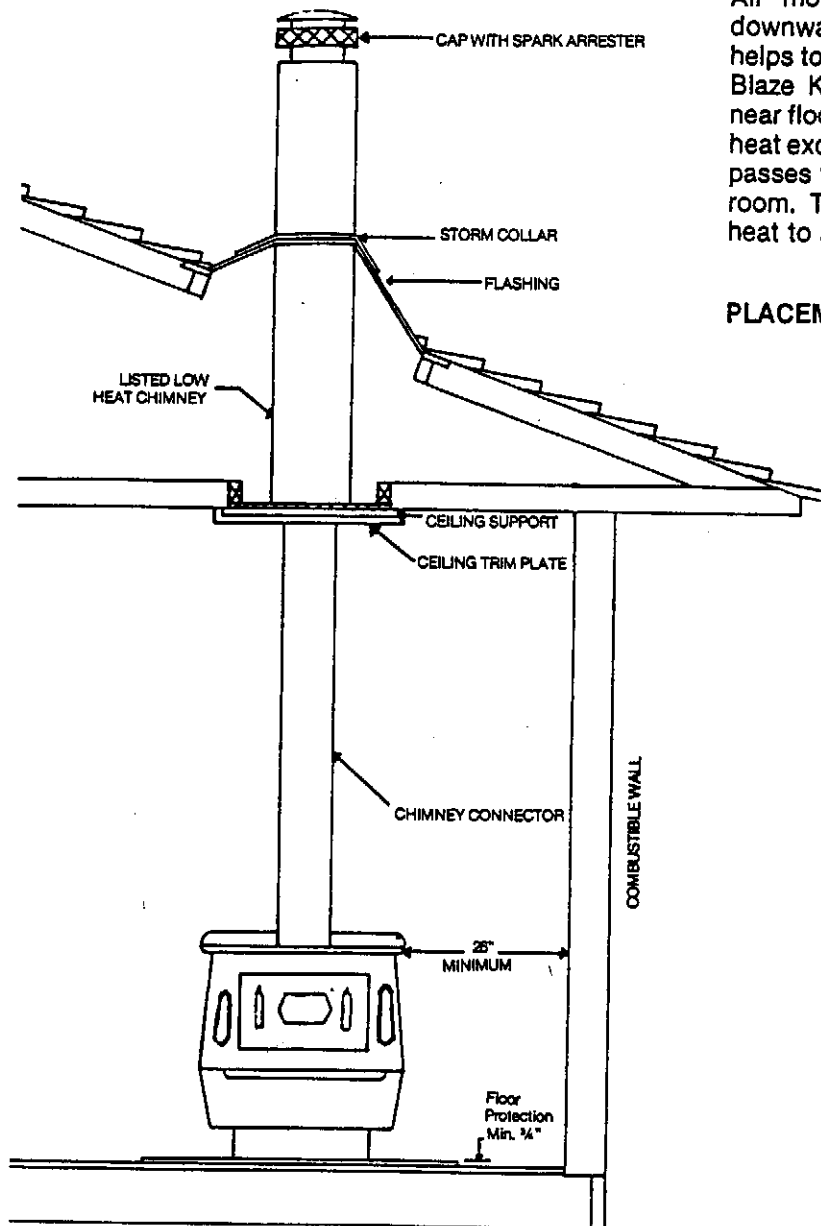

Figure 4
PLACEMENT: See Fig. 4 & 5.
1. Set hearth and stove in location for marking holes in accordance with the dimensions listed in Figures 4 and 5 of these instructions.